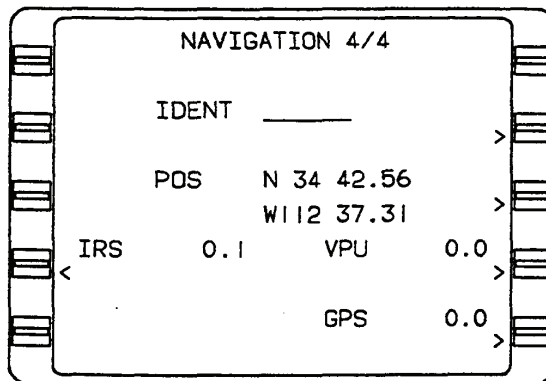

Figure 3A-29. FMS Navigation 4/4 Page
(5) *Navigation 4/4 Page*. Refer to Figure 3A-29.